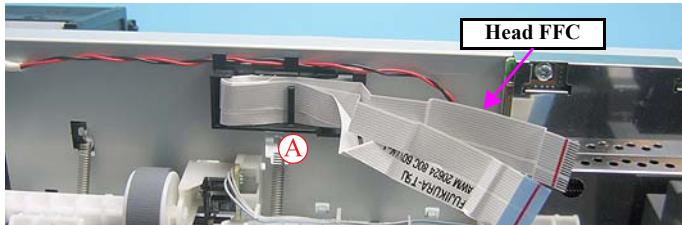

Figure 4-31. Installing Head FFC (3)
3. Fold back the Head FFC and secure it with Rib A again. (see Figure 4-31 (p.49))